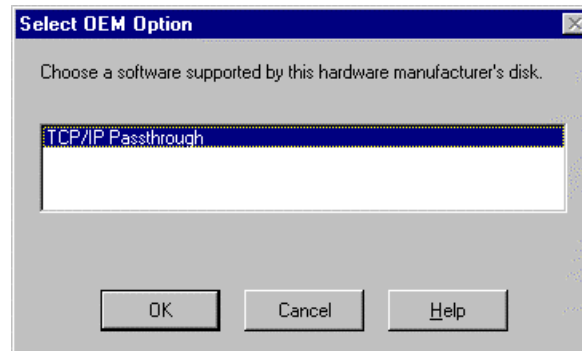

Figure 9-5. Select OEM Option
5. The Select OEM Option dialog box will display (Figure 9-5). TCP/IP Passthrough should be selected. Click **OK** to invoke the install.